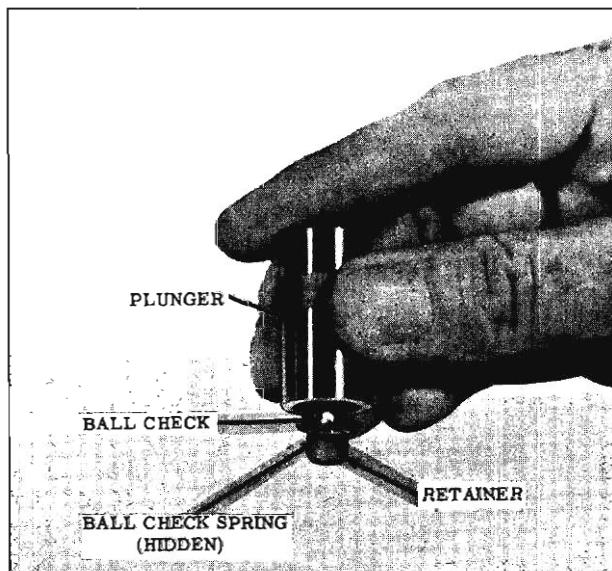

Fig. 3-17 Assembling Retainer in Plunger
2. Assemble ball check, spring and retainer into plunger. (Fig. 3-17) Make sure retainer flange is pressed tight against bottom of recess in plunger.